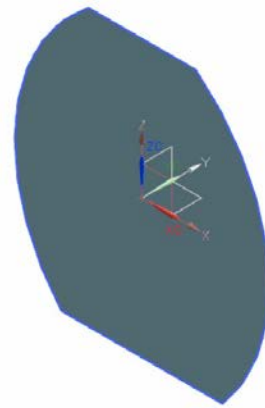

Figure 11-43 Base feature of the surface model
3. Select the sketch and choose the **OK** button; the base surface is created using the **Bounded Plane** tool, as shown in Figure 11-43.